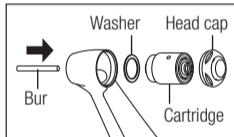

Fig. 21
- 6 Use the bur to gently push the cartridge and washer out from the handpiece head (Fig. 21).